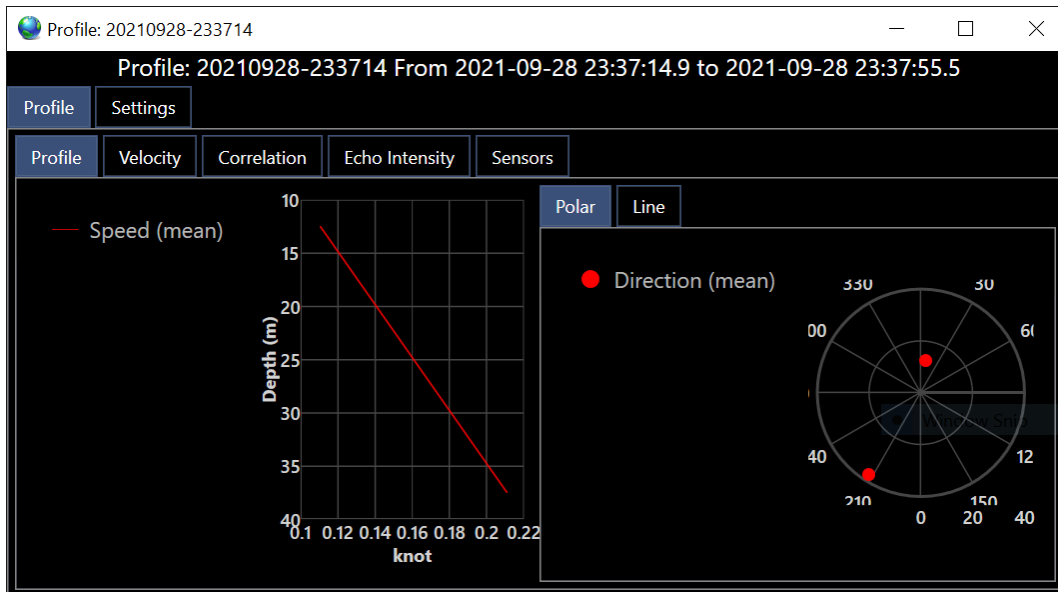

FIGURE 18-30 LIVE ADCP PROFILE SAVED
3. When profile is completed click on Finish and Save Profile, this opens a summary window, see Figure 18-30, click on the X in upper right corner of the window. This is saved for viewing using View ADCP Profiles.